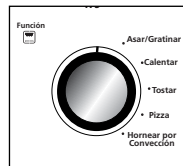

Figure 2
- 2. Function Selector Knob** – Select cooking function by turning knob to desired setting. (See Figure 2)